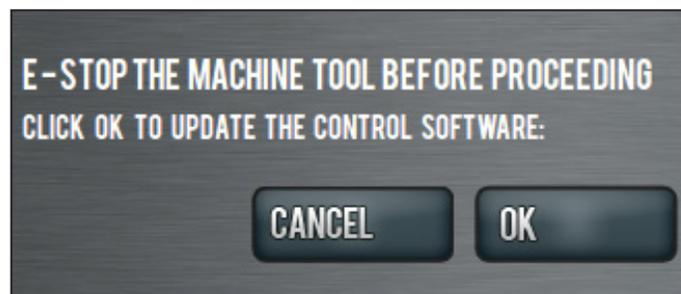

Figure 6
6. When prompted, push red E-stop button (see **Figure 6**) and click *OK*.